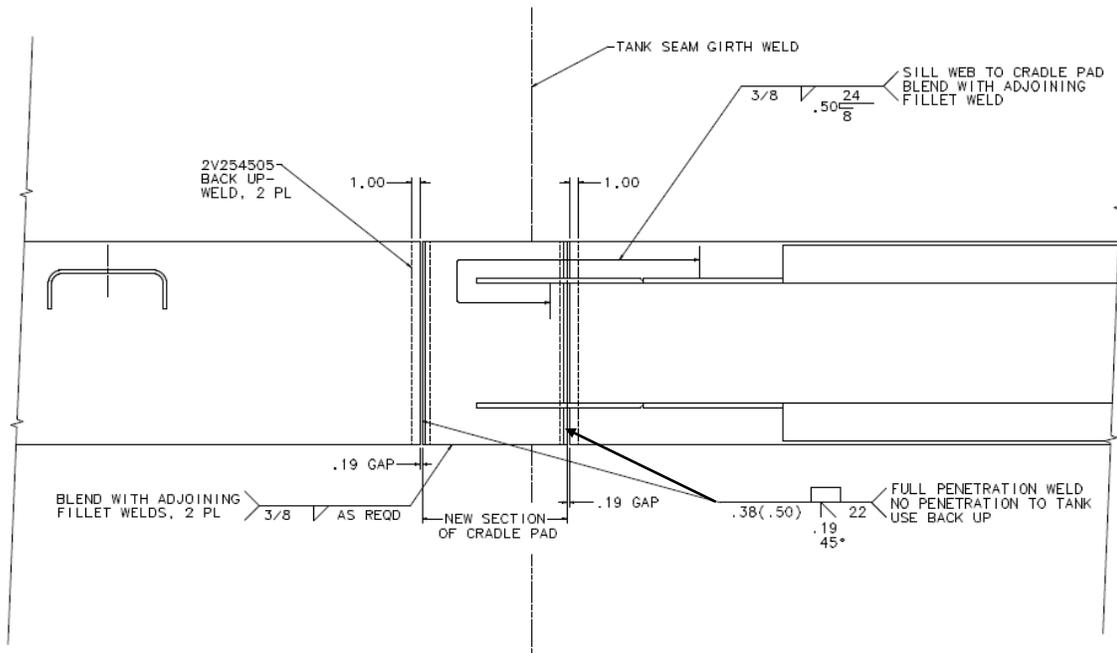

Figure 6
- viii. Fabricate a cradle pad splice in the same thickness as the removed cradle pad; material is ASTM A572 Gr. 50 modified to 70,000 psi tensile and rolled to match tank diameter. Apply weld prep on the transverse edges of the cradle pad splice as shown in the weld in Figure 6.
- ix. Groove weld the cradle pad splice section into place per Figure 6. The transverse welds are to be full penetration groove welds using the backing applied in 2.B.vi above to prevent penetration to the tank. Fillet weld the longitudinal edges of the cradle pad to the tank with 3/8 inch fillet welds including the 6 inch tie in created at the original cradle pad on the inboard and outboard ends of the cradle pad splice.